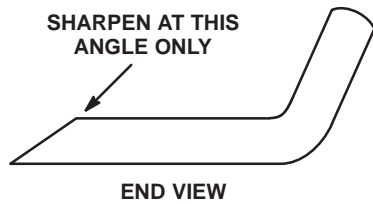

Figure 82
3. Inspect cutting edges of all blades. Sharpen the cutting edges if they are dull or nicked. Sharpen only the top of the cutting edge and maintain the original cutting angle to make sure of sharpness (Fig. 82). The blade will remain balanced if same amount of metal is removed from both cutting edges.